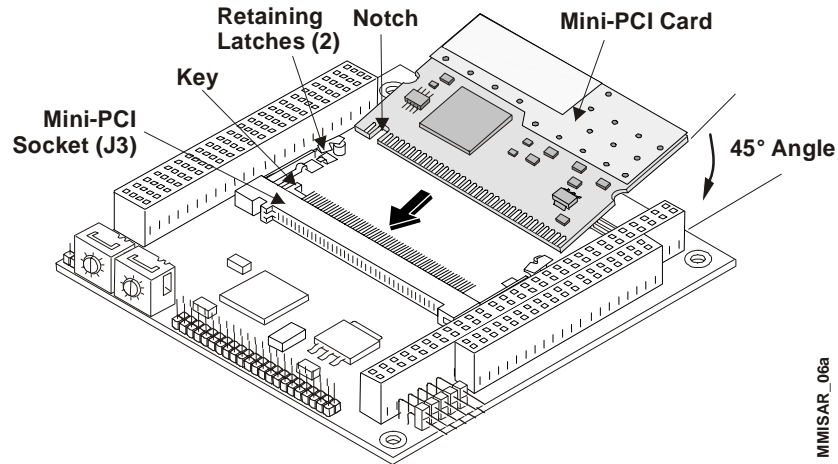

Figure 3-4. Installing Mini-PCI Card into Socket
7. Insert the Mini-PCI card into the socket at a 45° angle to the surface of the MiniModule ISA. See Figure 3-4.